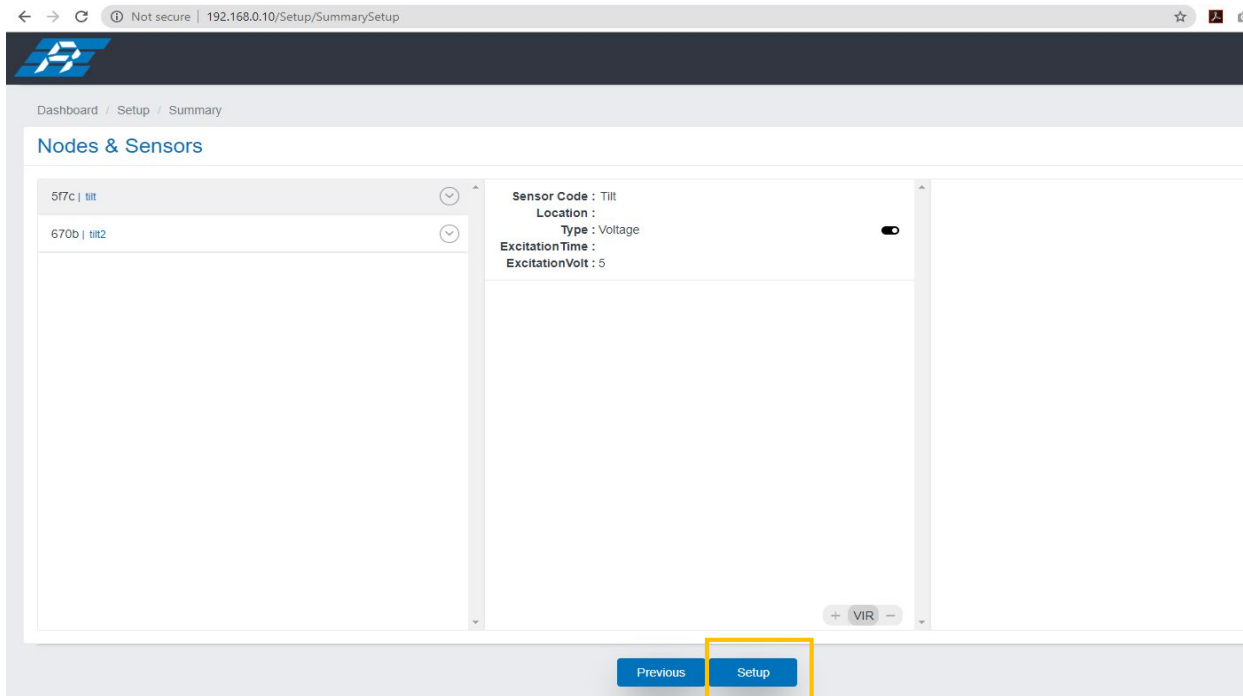

Figure 3-21
7. Once 'Next' button is pressed, Nodes & Sensors window will open up as shown in figure 3-21. Click on 'Setup' button..